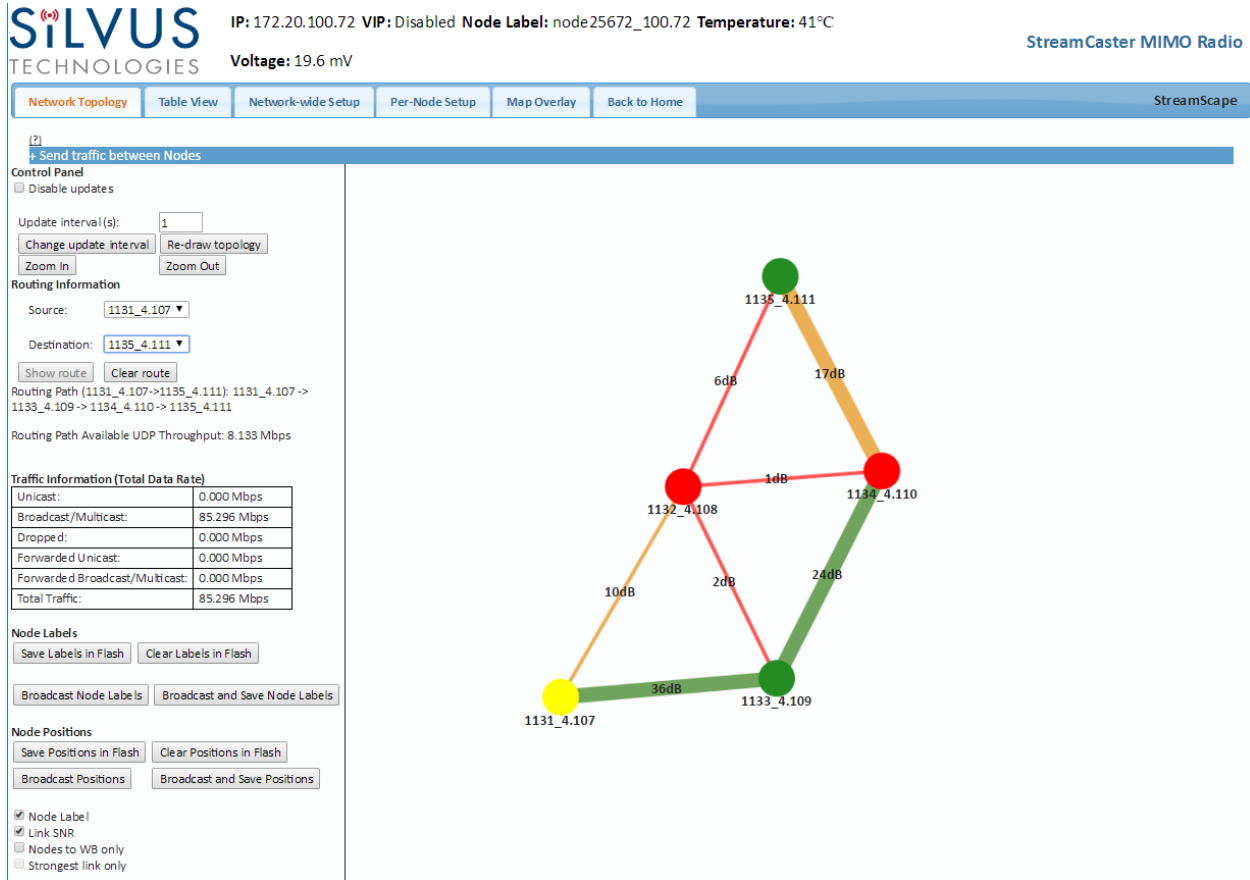

Figure 51 Routing Path
- Routing Information** – The user can view the routing path between any 2 nodes within a network by simply specifying the source and destination node in the Control Panel on the left hand side. The path will turn bold as shown in **Figure 51** for the path from ‘node4411’ to ‘node4569’.